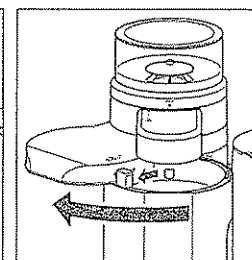

Figure 13
- Swing out the water supply (Figure 1D) using the swivel lever (Figure 1H) until it engages (Figure 13).